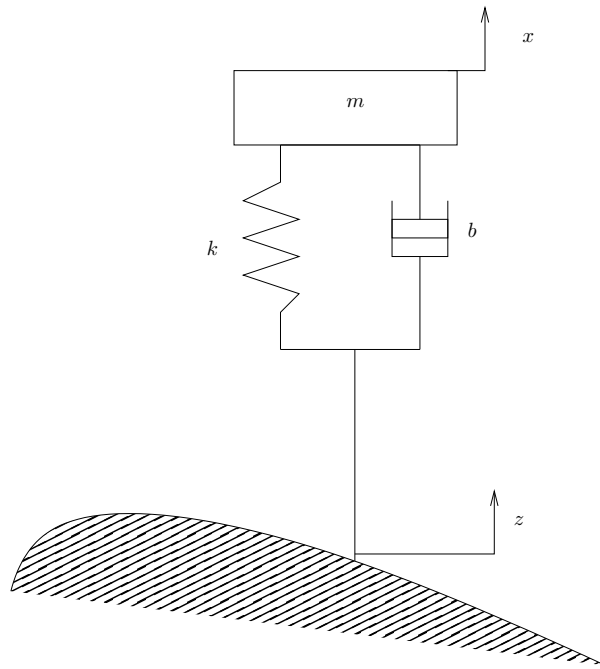

Figure 3: A model for motorcycle suspension system
3. The system shown in Figure 3 is used to model the suspension of a motorcycle. The input to the system is the displacement  $z$  caused by unevenness in the road and the output is displacement  $x$  caused to the body of the driver. Let  $m = 100$  Kg,  $b = 200$  Nt.s/m and  $k = 300$  Nt/m.